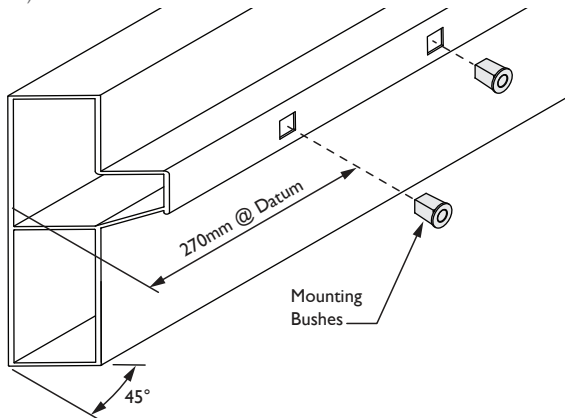
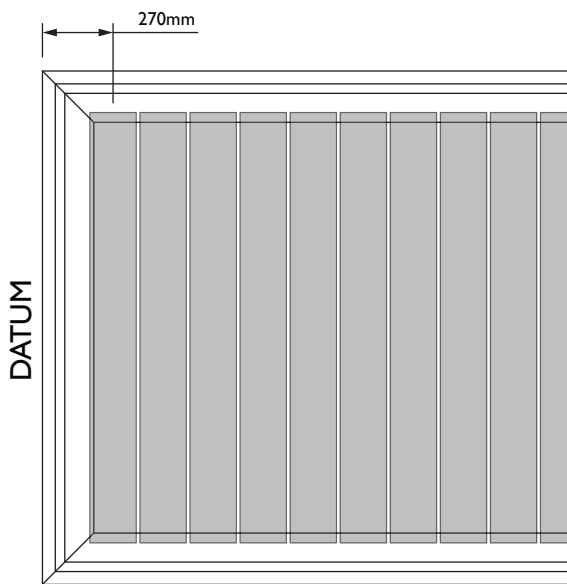

Figure 2.0
Figure 2.1
**Note:** Please ensure to follow the site plans supplied to ensure the mounting beams are installed in the correct orientation. The Datum end of beams will be identifiable by measuring the first mounting hole centre 270mm in from the end of the beam (Figure 2.0 & Figure 2.1).
Louvre Mounting Bushes must be fitted to the mounting beams prior to louvre installation (Figure 2.0).